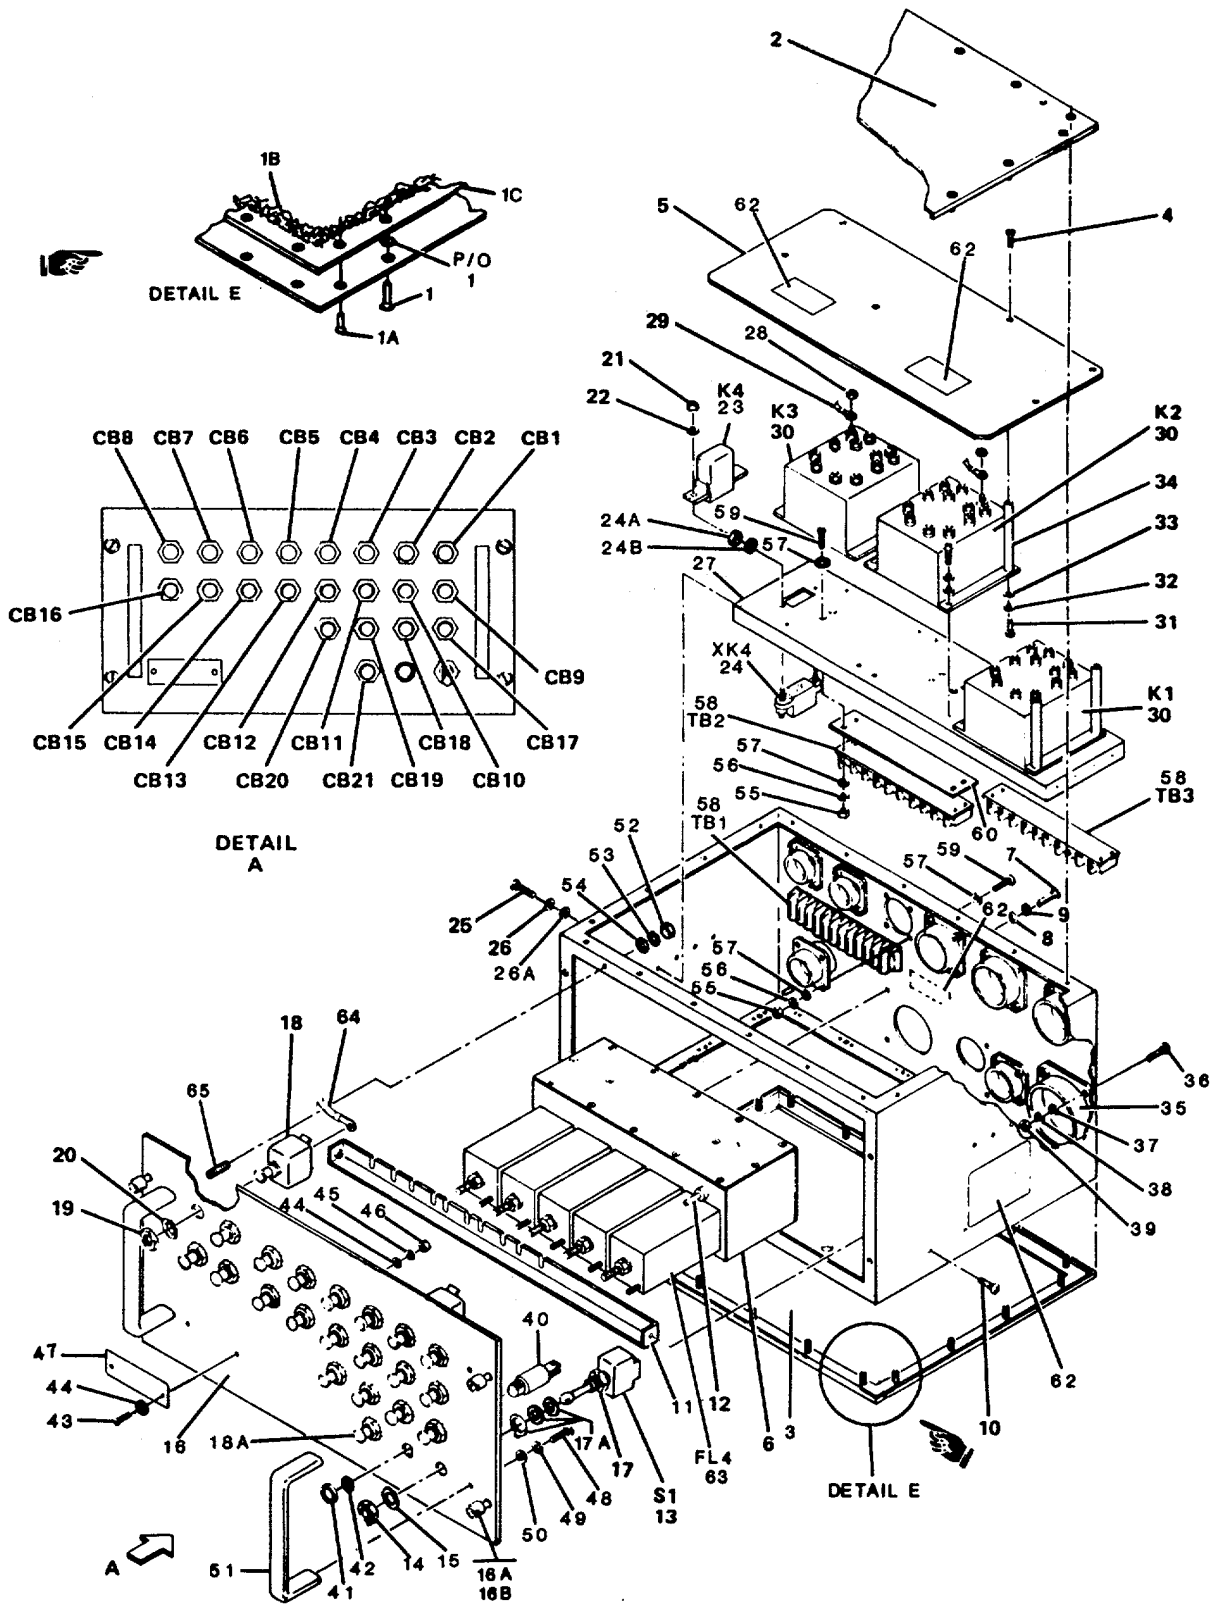
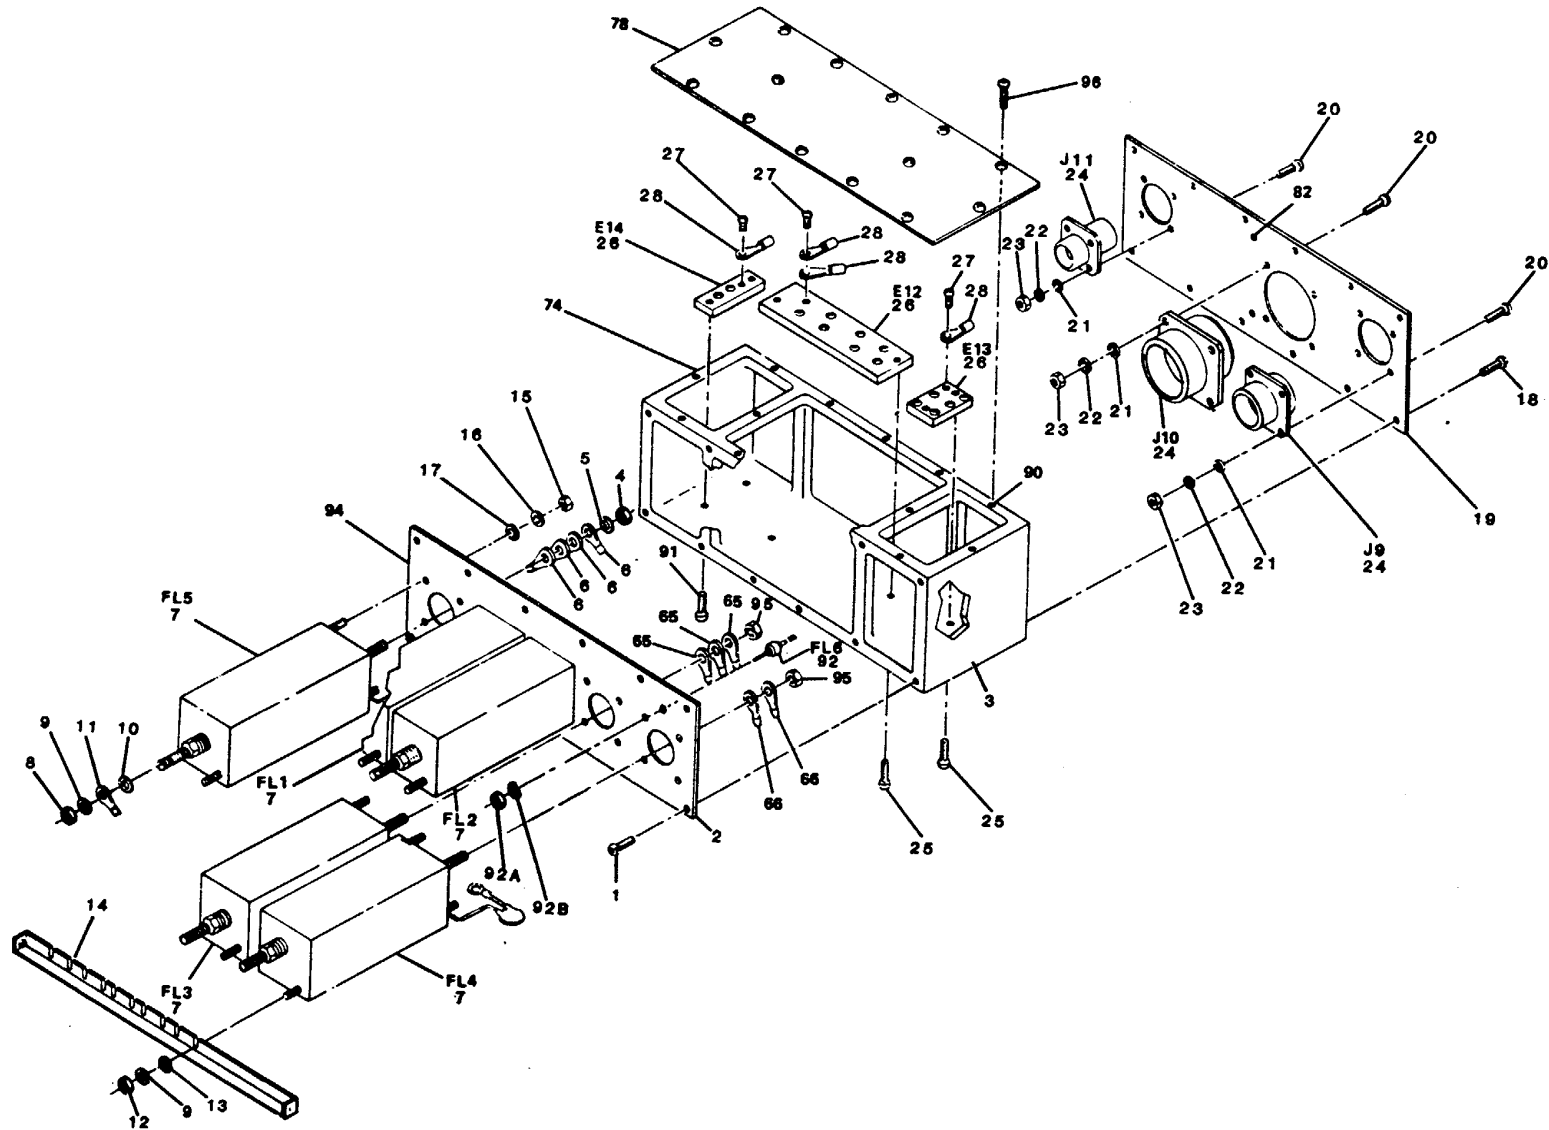

Figure 5-3. Power Distribution Box Component Locations
Figure 5-4. Filter FL1 through FL5 Replacement
**5-8. General.** This section provides maintenance procedures that are the responsibility of general support maintenance personnel. Paragraph 5-9 contains general inspection and cleaning instruction for the power distribution box. Subsequent paragraphs contain specific maintenance procedures applicable to power distribution box components shown in figures 5-3 and 5-4. Procedures reference components by parenthetical numbers keyed to figures 5-3 and 5-4. Perform both the general procedures and the applicable specific procedures.
- a. Top and Bottom Cover Removal. Refer to figure 5-3. Loosen the 20 self retaining screws (1) around the perimeter of the top cover (2) or bottom cover (3). Remove the cover.
- b. High-Voltage Shield Removal. Refer to figure 5-3. Remove the top cover in accordance with paragraph 5-10a, then remove the six screws (4) and the high-voltage shield (5).
- c. RFI Filter Assembly A1 Removal. Refer to figures 5-3 and 5-4, and proceed as follows:
- (1) Remove bottom cover (3) in accordance with paragraph 5-10a.
- (2) Remove the six screws (7), flat washers (8), and lock washers (9) that secure the RFI filter assembly (6) to the rear of the chassis.
- (3) Remove the two screws (10) that secure the filter bracket (11) to the sides of the chassis.
- (4) Slide the RFI filter assembly (6), with filter bracket attached, toward the front panel to clear the connectors from the rear panel, then turn the assembly sideways until the filter bracket is free of the chassis. Note that the connection to filter FL6 (12) is hidden behind FL4 (63).
- (5) Refer to figure 5-4. Tag the wires on the RFI filter assembly (6) for proper identification during reconnection. Remove nut (8), lock washer (9), flat washer (10), terminal lug (11), and wiring from FL1 through FL5 (7).
- (6) Tag wire connected to FL6 (item 92, figure 5-4) for proper identification during reconnection, then unsolder wire.
- (7) Refer to figure 5-3. Remove the RFI filter assembly (6) from the chassis. Refer to figure 5-4. Remove two nuts (12) two flat washers (9) and two lock washers (13) that secure filter bracket (14) to each filter and remove filter bracket (14).
a. RFI Filter Assembly A1 Replacement. Refer to figure 5-3 unless otherwise indicated and proceed as follows:
- (1) Place the RFI filter assembly (6) in position for soldering the wire to filter FL6 (92) as tagged during removal.
- (2) Solder the wire to FL6 (92).
- (3) Refer to figure 5-4. Secure filter bracket (14) to filters FL1 through FL5 (7) with two lock washers (13), two flat washers (9) and two nuts (12) at each filter.
- (4) Refer to figure 5-4. Reconnect wiring to filters FL1 through FL5 (7) as tagged during removal. Secure terminal lug (11) with nut (8), lock washer (9), and flat washer (10) at each filter.
- (5) Carefully rotate the RFI filter assembly and install it into its correct position inside the chassis.
- (6) Secure the filter bracket (11) to the sides of the chassis with two screws (10).
- (7) Secure the RFI filter assembly to the rear panel with six screws (7), flat washers (8), and lock washers (9).
- (8) Install the bottom cover (3) in accordance with paragraph 5-11c.
- (9) Refer to section V of this chapter.
b. High-Voltage Shield Replacement. Refer to figure 5-3. Aline the high-voltage shield (5) in the chassis and secure with six screws (4). Replace top cover (2) in accordance with paragraph 5-1c.
c. Top and Bottom Cover Replacement. Refer to figure 5-3. Aline the top cover (2) or bottom cover (3) in the chassis and secure with 20 screws (1).
a. MISSION POWER Switch S1 Removal and Replacement. Refer to figure 5-3 and proceed as follows:
- (1) Remove the bottom cover (3) as given in paragraph 5-10a.
- (2) Remove the outer collar nut (14) and outer lock washer (15) that secure the switch (13) to the front panel (16). Remove the switch.
- (3) Tag the wires to identify switch (13) connections.
- (4) Remove the wires from the switch (13).
- (5) Attach the wires to the replacement switch (13) as tagged during removal.
- (6) Remove the outer collar nut (14) and outer lock washer (15) from the replacement switch. Aline the switch with top side up and slide into the front panel (16). Adjust the inner collar nut (17) to accommodate the keyed washer (17A), outer lock washer (15) and outer collar nut (14).